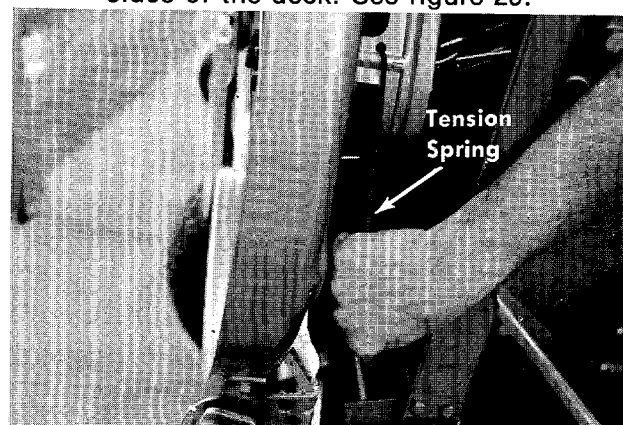

FIGURE 29. REMOVING TENSION SPRINGS
- Step 5. Unhook the tension springs on both sides of the deck. See figure 29.
- a. Remove the entire belt guard from the engine pulley by removing the two front engine bolts. See figure 29.